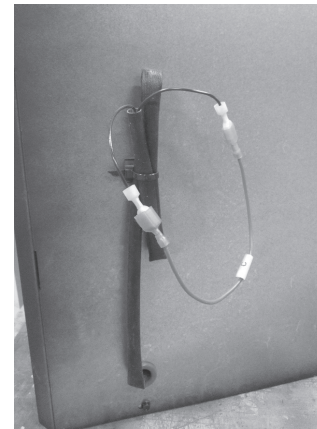

Figure 6.8
- Install the jumper wire on the reset switch wire on the side of the insert. Leave the reset switch wire attached to the side of the insert. See Figure 6.8.